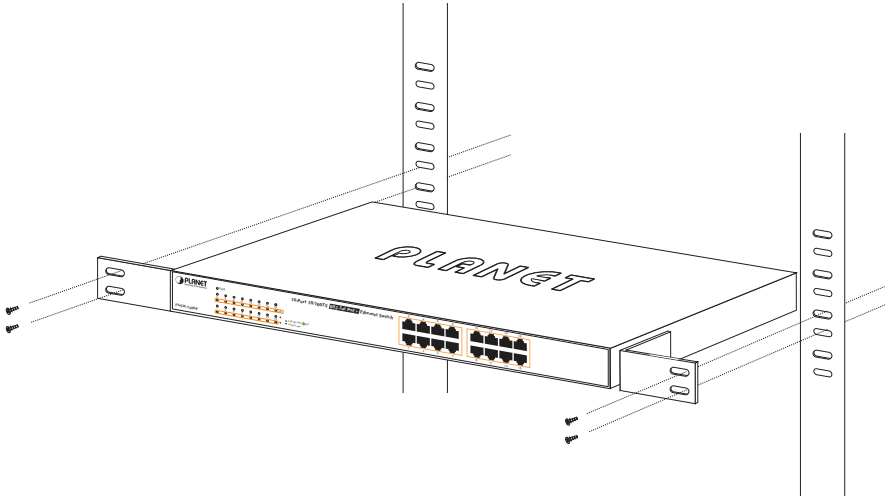

Figure 5-3: Mounting the Switch in a Rack
Step 5: After the brackets are attached to the Switch, use suitable screws to securely attach the brackets to the rack, as shown in Figure 5-3.